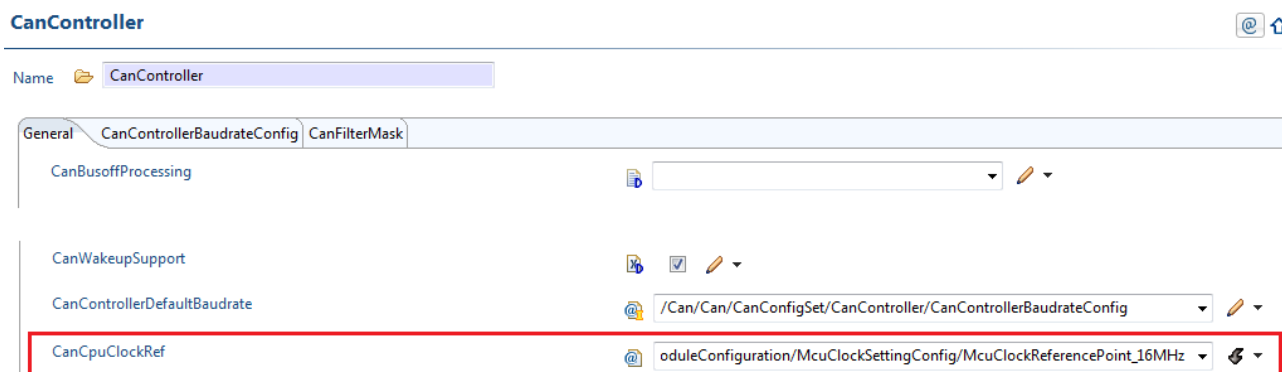

Figure 4.9. Configuring CanCpuClockRef
2. Update the parameter `CanCpuClockRef`. For an example, see Figure 4.9, "Configuring CanCpuClockRef".